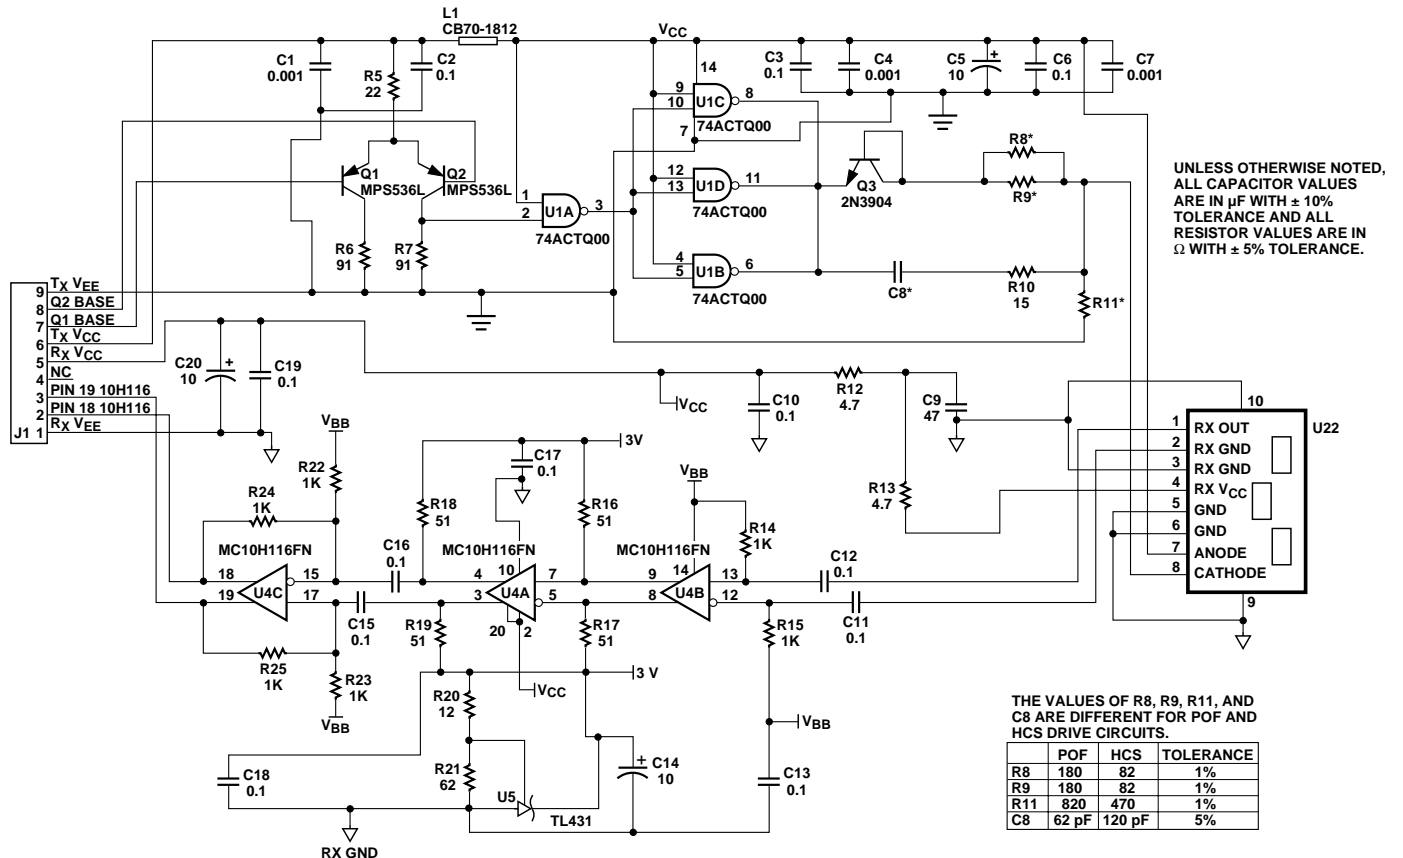

Figure 1. Transmitter and Receiver Application Circuit with +5 V ECL Inputs and Outputs.
the recommended applications circuits shown in Figure 1. This circuit has been optimized for 125 MBd operation. The Applications Engineering Department in the Hewlett-
Recommended Operating Conditions for the Circuits in Figures 1 and 2.
- If the output of U4C in Figure 1, page 4 is transmitted via coaxial cable, terminate with a 50 Ω resistor to V_{CC} - 2 V.
Performance of the transmitter in the recommended application circuit (Figure 1) for POF; 1-125 MBd, 25°C.
Hard Clad Silica Fiber (200 μm HCS) Transmitter Application Circuit: Performance of the transmitter in the recommended application circuit (Figure 1) for HCS; 1-125 MBd, 25°C.
Performance^[4] of the receiver in the recommended application circuit (Figure 1); 1-125 MBd, 25°C unless otherwise stated.
Electrical/Optical Characteristics 0 to 70°C; 5.25 V ≥ V_{CC} ≥ 4.75 V; power supply must be filtered (see Figure 1, Note 2).
- Pins 9 and 10 are primarily for mounting and retaining purposes, but are electrically connected with the conductive housing. Pins 5 and 6 are electrically unconnected. It is recommended that pins 5 and 6 be connected to Rx ground to reduce coupling of electrical noise. Refer to Figure 1. The connections between pins 1 and 2 of the HFBR-5527 and pins 13 and 12 of the MC10H116 should be adjacent and nearly the same length to maximize the common mode rejection of the MC10H116 to eliminate cross talk between the transmitter and receiver.